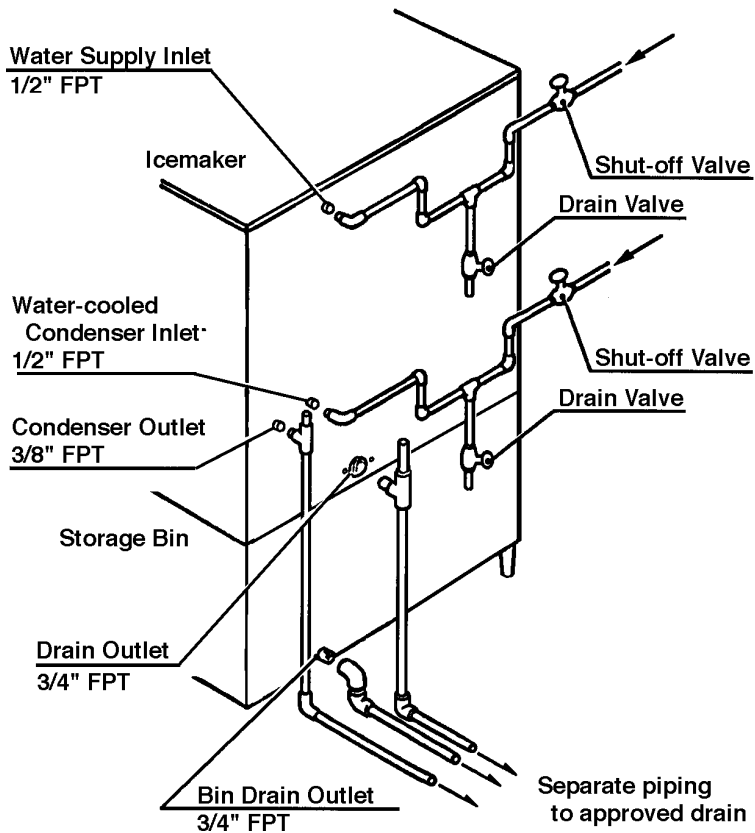

Fig. 4
6. WATER SUPPLY AND DRAIN CONNECTIONS - See Fig. 4
- 8) Close the Water-cooled Condenser Water Supply Line Shut-off Valve. See Fig. 4.
- 4) Close the Potable Water Supply Line Shut-off Valve and open the Potable Water Supply Line Drain Valve. See Fig. 4.